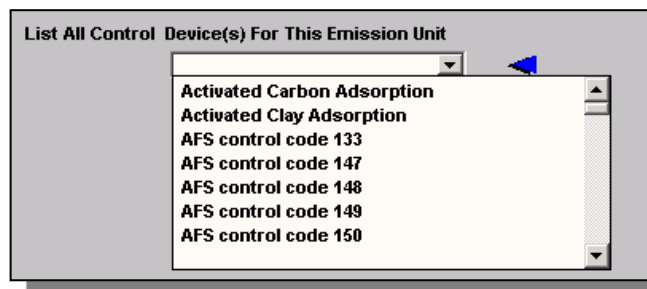

Figure 6-2: Control Devices
12. **List All Control Device(s) For This Emission Unit:** Click on this field and a drop-down list of control devices will appear (Figure 6-2). If there is a control device associated with the emission unit, select the most appropriate control device code provided. If no control device is associated with this emission unit leave this field blank.